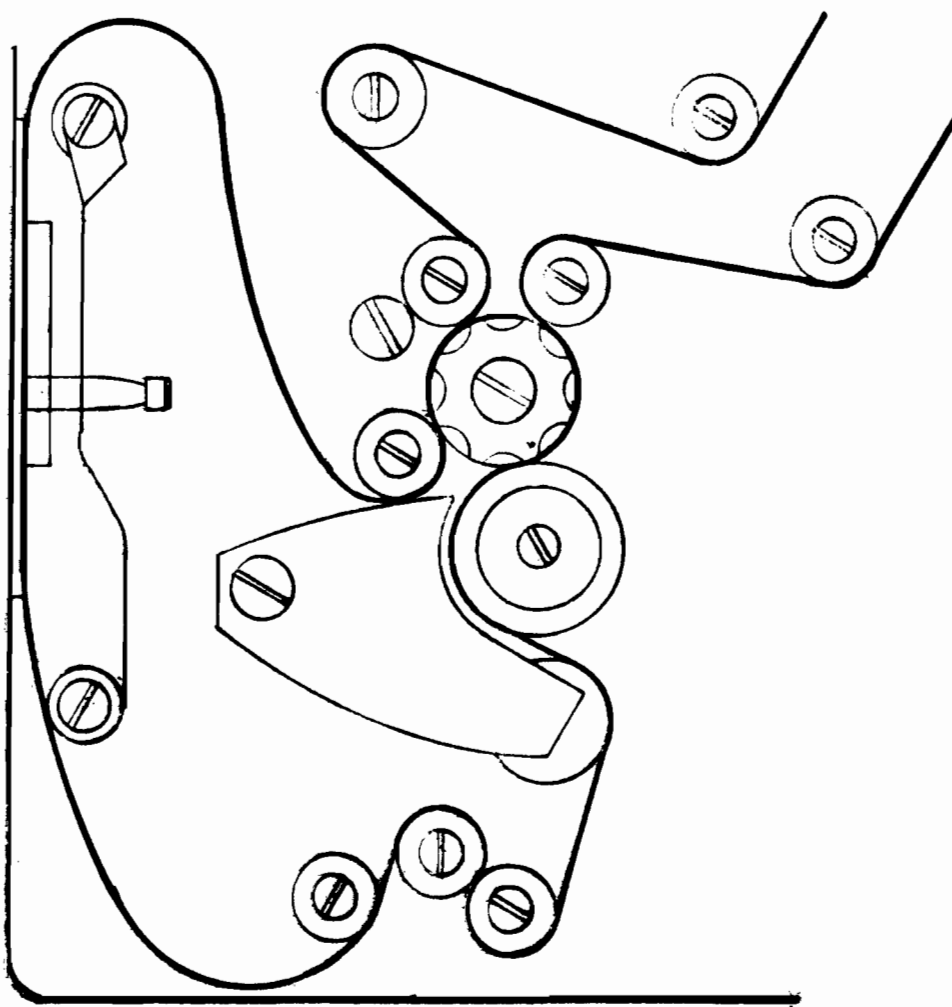

FIGURE 23
3. To thread the film, follow the threading diagram in Figure 23, making sure the pressure plate is lifted and the film is correctly seated on the loop control sprocket and gate.